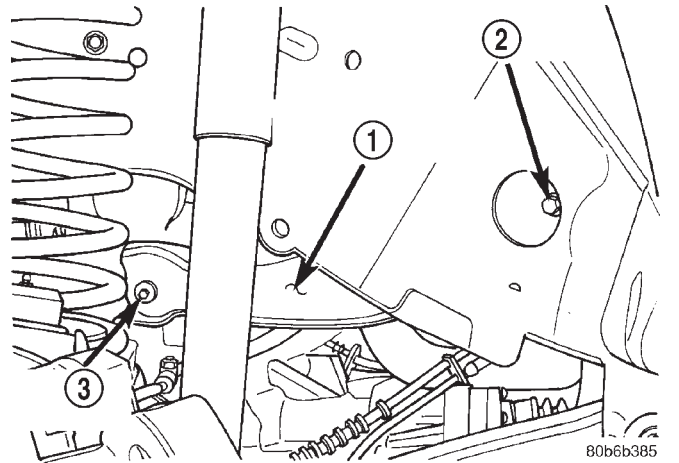

Fig. 8 Upper Suspension Arm
- (1) Raise vehicle and support the axle.
- (2) Remove the upper suspension arm mounting nut and bolt (Fig. 8) from the axle bracket.
- (3) Remove the nut and bolt (Fig. 8) at the frame rail and remove the upper suspension arm.